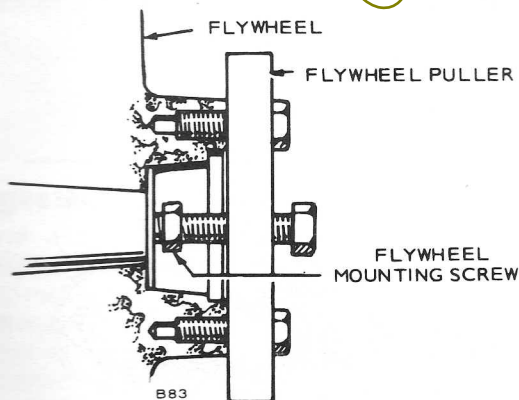

FIGURE 17. BLOWER WHEEL PULLEY
2. Install a puller bar on the flywheel as shown in Figure 17.